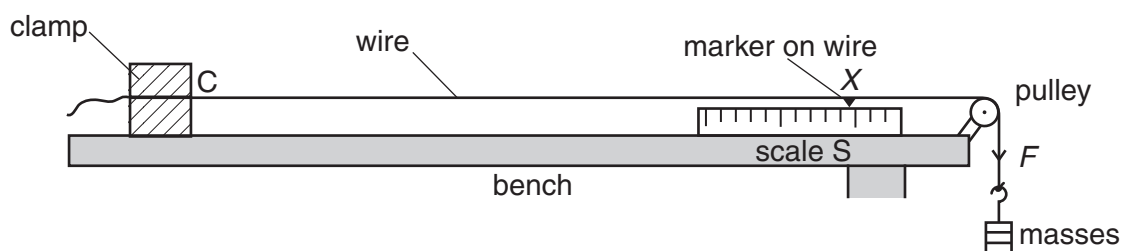

Fig. 3.1
- 3 The Young modulus of the material of a wire can be determined using the apparatus shown in Fig. 3.1.